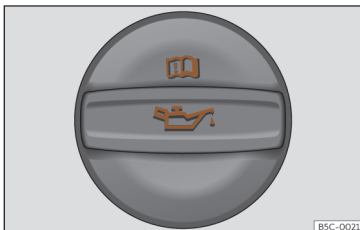

Fig. 223 In the engine compartment: Engine oil filler cap.
- Unscrew cap from engine oil filler opening >>> Fig. 223.